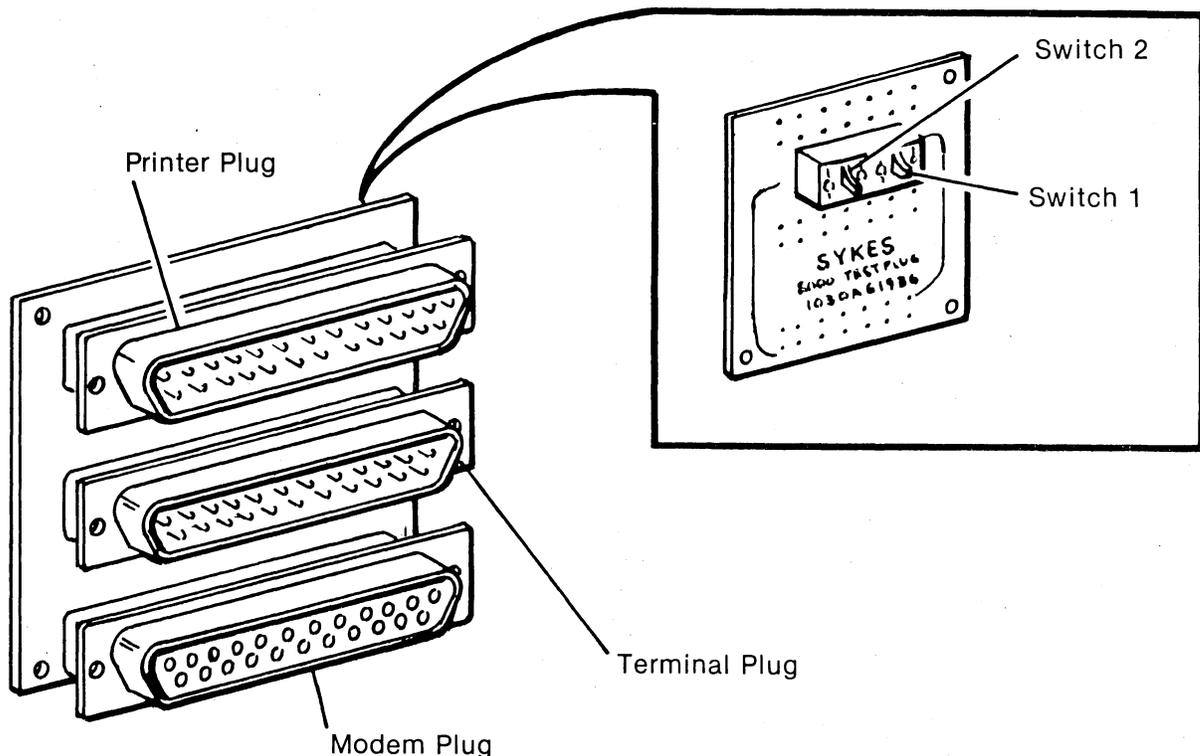

Fig. 1—Diagnostic Test Plug
3.01 The User Diagnostic Kit (SYKES part number 1030A5307) consists of a special Diagnostic diskette and a 3-port EIA conductor plug (Fig. 1). The test procedure is automatically loaded off the diskette into the unit's memory when the test is performed.